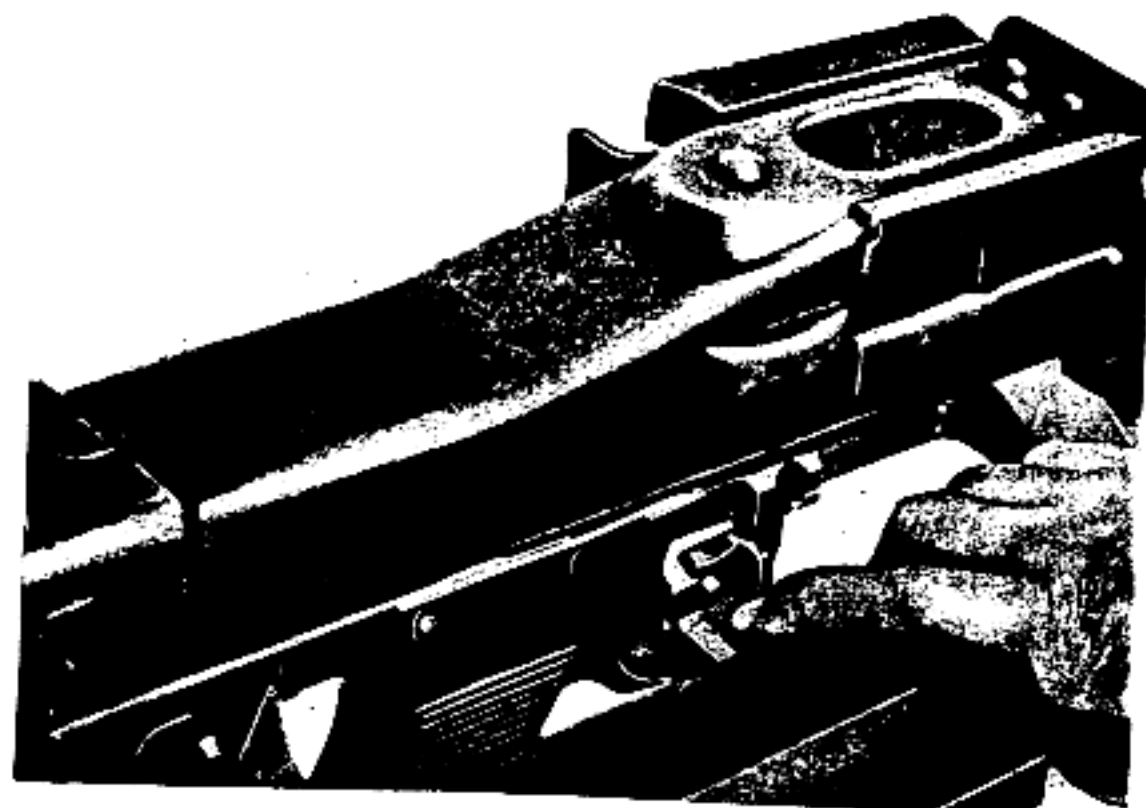

Figure 34 - Adjustment of Trigger Finger for Automatic Fire
(3) **AUTOMATIC FIRE.** Push the trigger finger on the mount down (fig. 34), then pull the trigger handle. The machine gun will continue to deliver automatic fire as long as the handle is pulled and ammunition is fed into the gun. Between bursts, set the safety at **SAFE** (move it to rear to uncover letter "S" (fig. 31)).